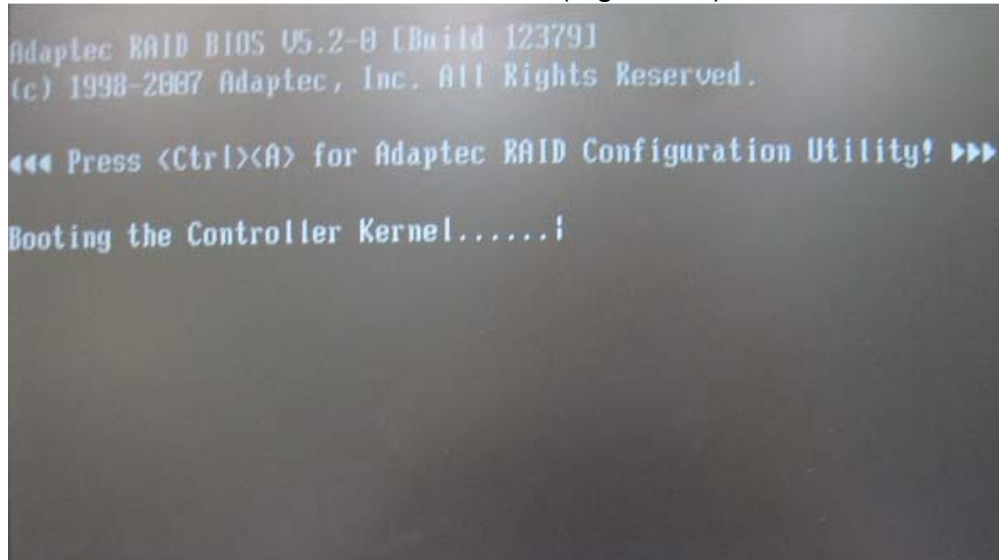

Figure 6-2 Raid Setup Utility
1. When prompted, press Ctrl A to enter the RAID menu. (Figure 6.2)